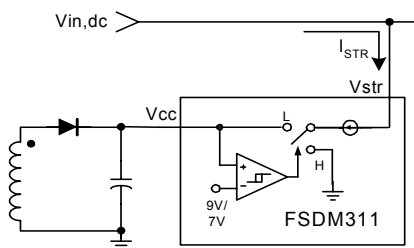

Figure 4. Internal Startup Circuit
1. Startup : At startup, the internal high voltage current source supplies the internal bias and charges the external Vcc capacitor as shown in Figure 4. In the case of the FSDM311, when Vcc reaches 9V the device starts switching and the internal high voltage current source is disabled. The device is in normal operation provided that Vcc does not drop below 7V. After startup the bias is supplied from the auxiliary transformer winding.